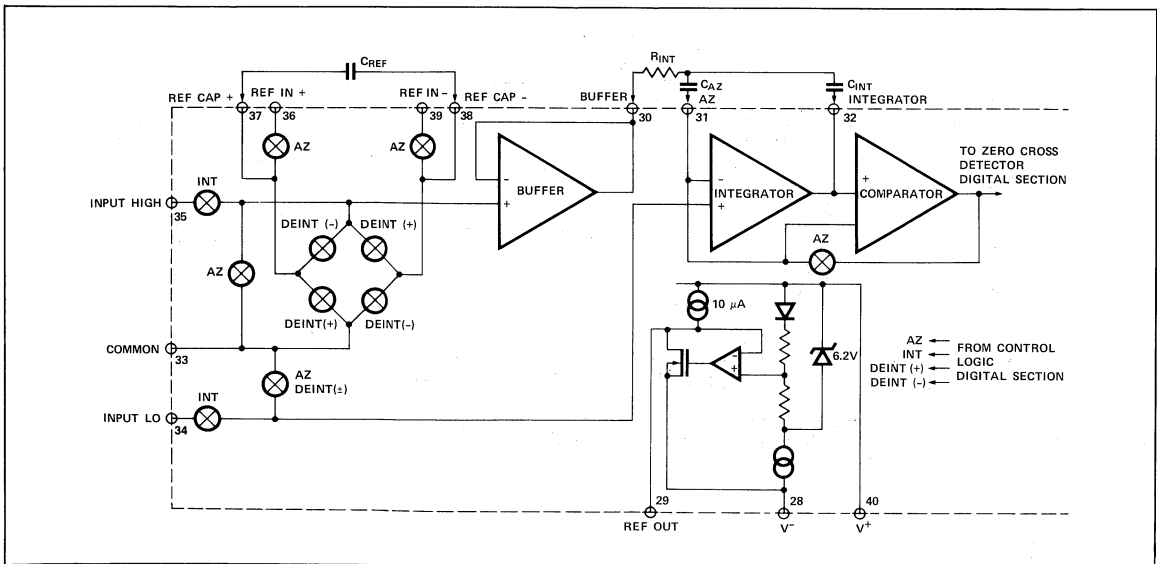

Figure 2: Analog Section
Figure 2 shows a block diagram of the Analog Section of the TSC7109. The circuit will perform conversions at a rate determined by the clock frequency (8192 clock periods per cycle), when the RUN/HOLD input is left open or connected to V+. Each measurement cycle is divided into three phases as shown in Figure 3. They are: (1) Auto-Zero (AZ), (2) Signal Integrate (INT), (3) Reference Deintegrate (DE).